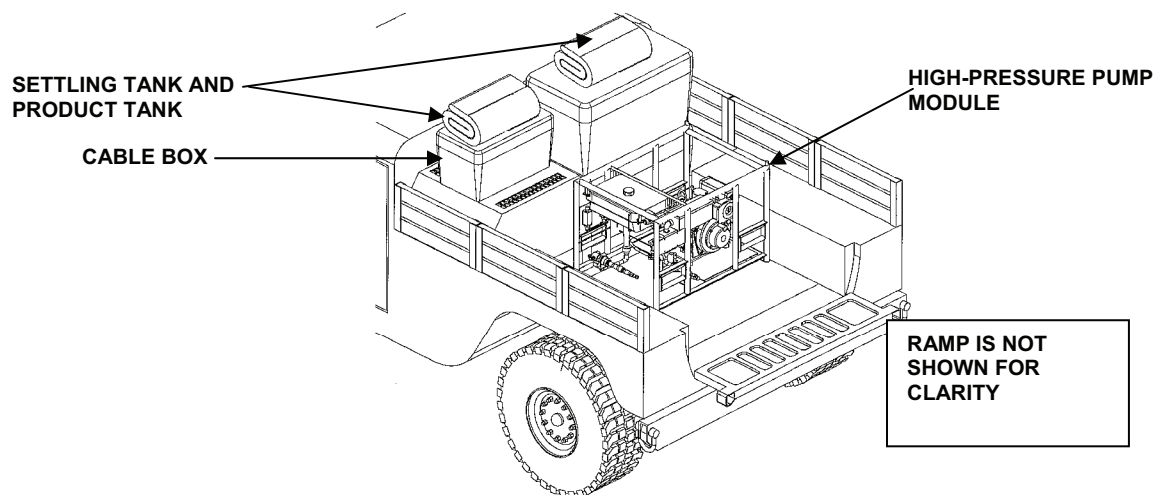

Figure 13. Offloading High-Pressure Pump Module.
19. Offload the high-pressure pump module from vehicle. See Figure 13.